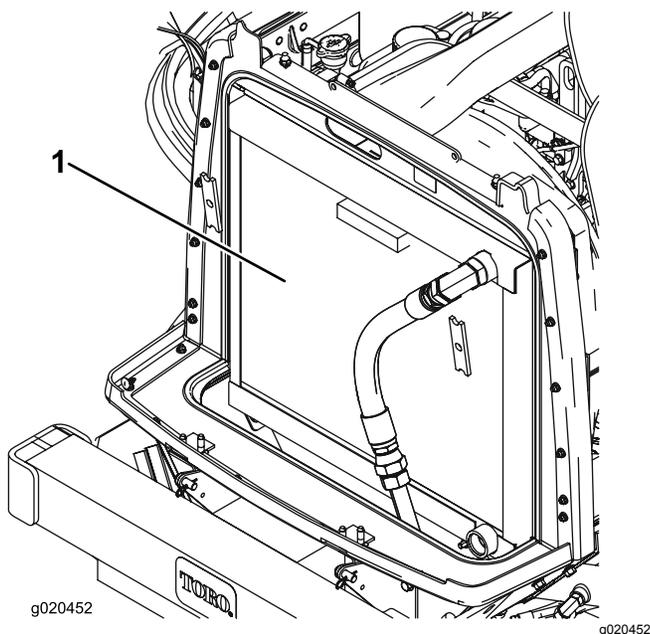

Figure 98
3. Clean both sides of the radiator/oil cooler area thoroughly with compressed air (Figure 98).